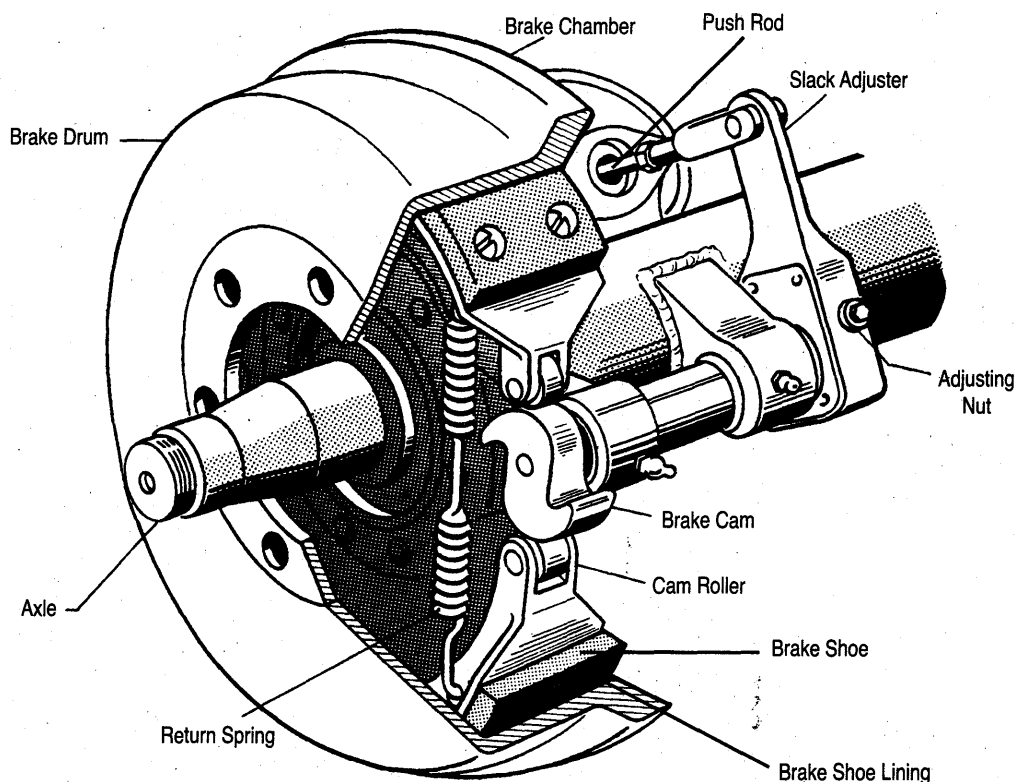

Figure 5-2 S-cam Air Brake
Drum brakes (foundation brakes) may be used at each wheel. The most common type is the S-cam drum brake (so called because of its shape) shown in Figure 5-2.
**S-cam brakes.** When you push the brake pedal, air is let into each brake chamber (Figure 5-2). Air pressure pushes the rod out, moving the slack adjuster, thus twisting the brake cam shaft. This turns the S-cam. The S-cam forces the brake shoes away from one another and presses them against the inside of the brake drum. When you